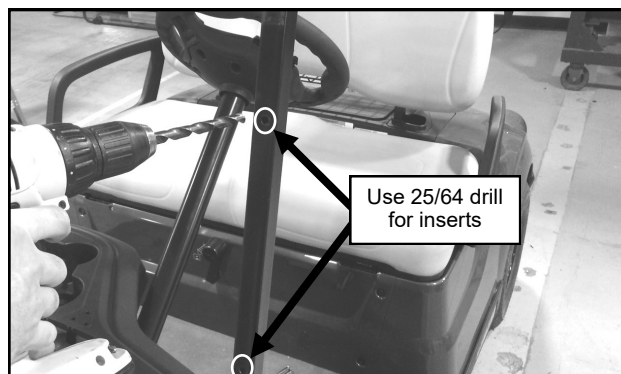

Fig. 1.9 (install threaded insert - left side)
**1.9** Per figure 1.9, open up the lower (2) holes shown on each of the front roof supports. Next, install (4) threaded inserts into the opened up holes. **CAUTION!** Must use 25/64" drill, failure to do so will cause the insert to spin.
*Note: If installing heater kit p/n: 9PH20S70, only open up the (1) middle hole on each front roof support.*